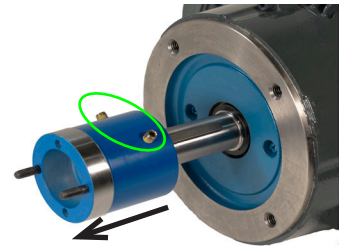

figure 16
- Remove the two set screws for NEMA frames or shaft bolt for IEC frames. See figure 16.